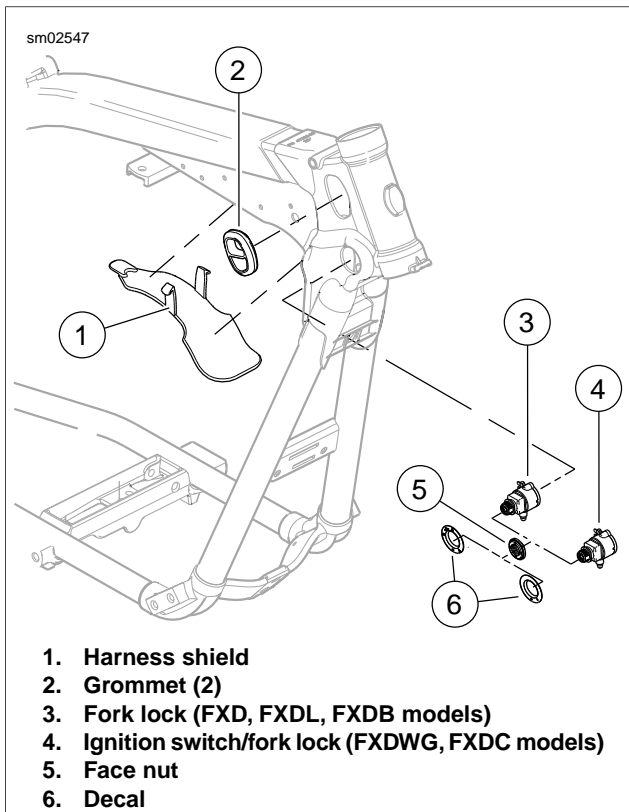
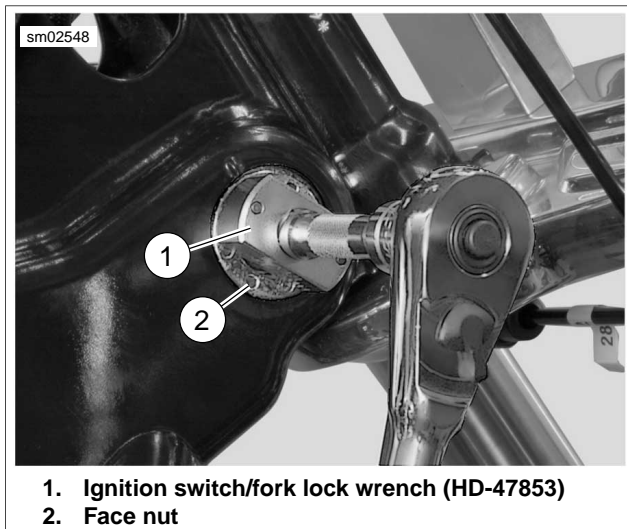

Figure 8-12. Harness Shield
Figure 8-13. Fork Lock/Ignition Switch Wrench
7. See Figure 8-12. Remove harness shield (1) by pushing both tabs of shield in at the same time.
9. Remove decal (6).
10. See Figure 8-13. Place IGNITION SWITCH/FORK LOCK WRENCH (Part No. HD-47853) (1) on face nut (2). Turn ignition switch/fork lock wrench clockwise to loosen face nut. Turn face nut clockwise until it bottoms on ignition switch/fork lock.
8. See Figure 8-13. Using IGNITION SWITCH/FORK LOCK WRENCH (Part No. HD-47853), turn face nut counterclockwise until tight.
9. See Figure 8-12. Install decal (6).